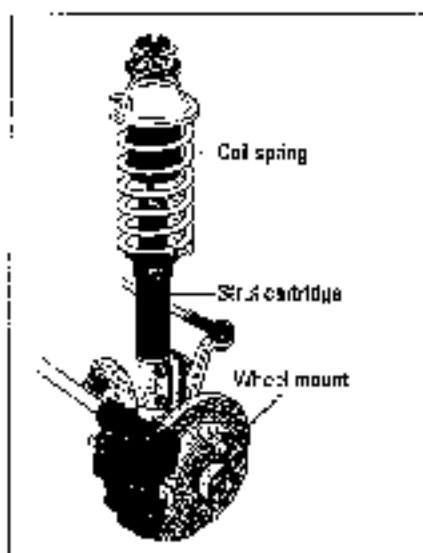

Figure 11-4:
- ✓ **MacPherson strut suspension:** There are two types of strut suspensions: *conventional* and *modified* (see Figures 11-4 and 11-5). Conventional struts have the coil spring wrapped around the strut cartridge, and modified strut suspensions have a remotely mounted spring. Strut suspensions use no upper control arm. The upper strut mount is what holds the wheel in place.